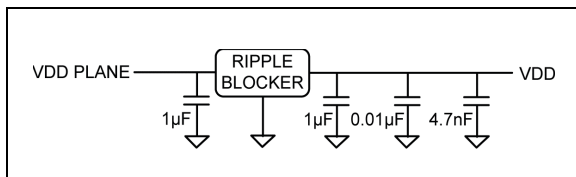

FIGURE 5-2: Filter Circuit with Ripple Blocker.
- To improve power supply filtering beyond what a ferrite bead Pi filter can provide, the Ripple Blocker™ provides a solution. MIC94300 or MIC94310 are recommended parts. The filter circuit with Ripple Blocker is shown in Figure 5-2 and can be used along with any of the above V_{DD} sections except V_{DDO} .